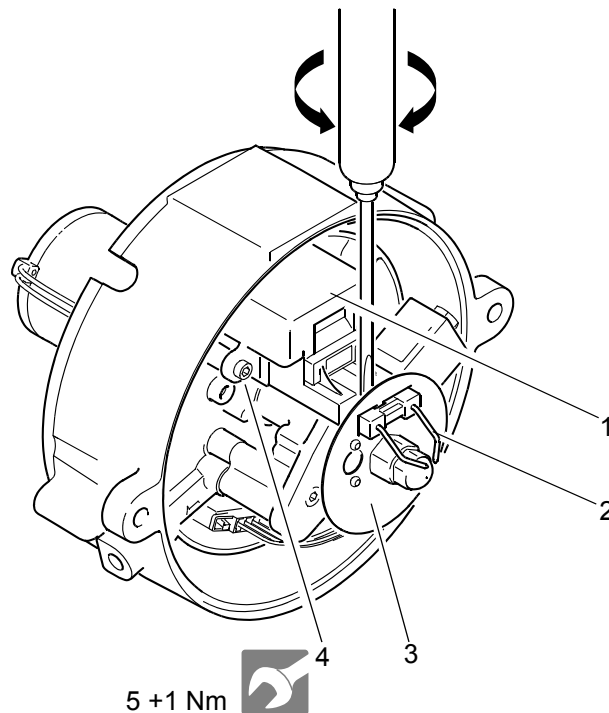
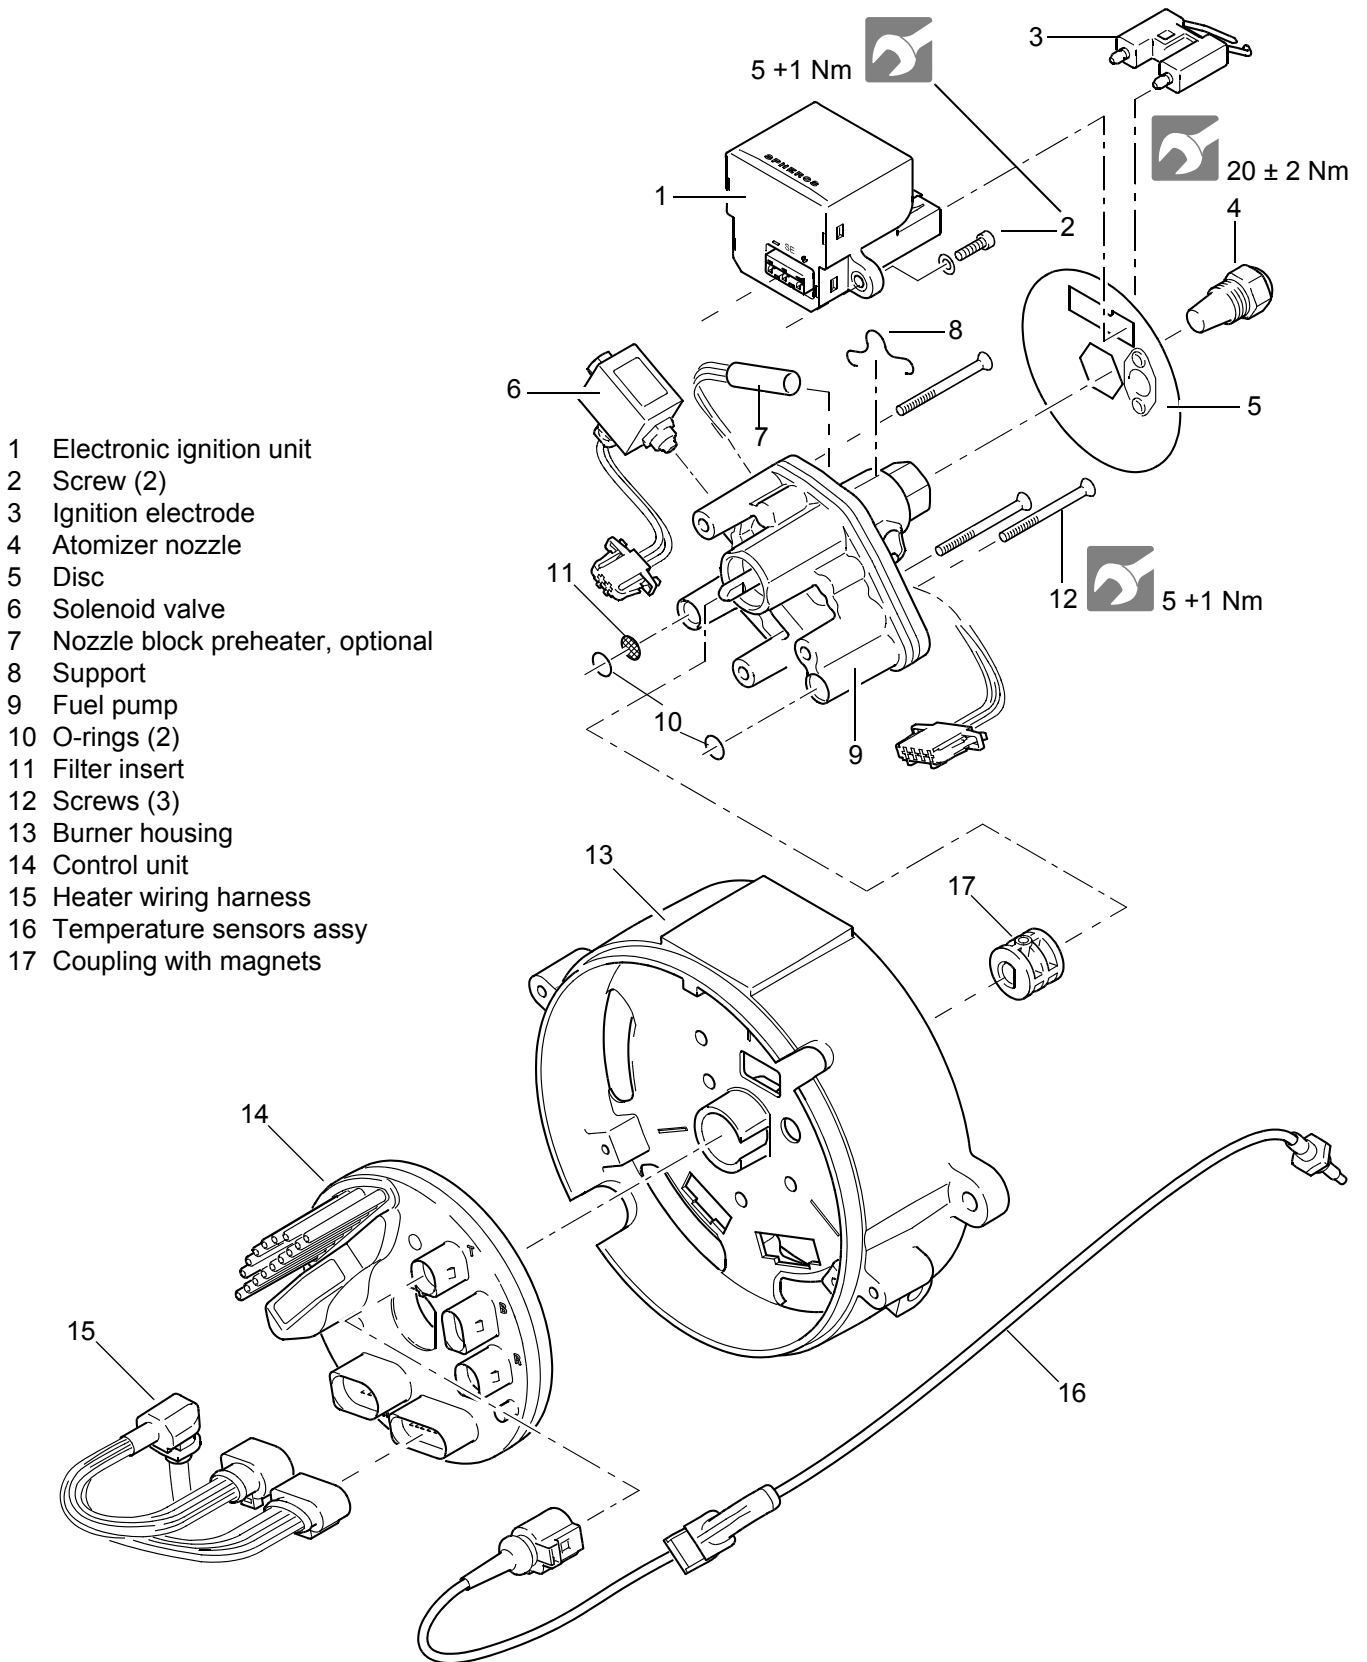
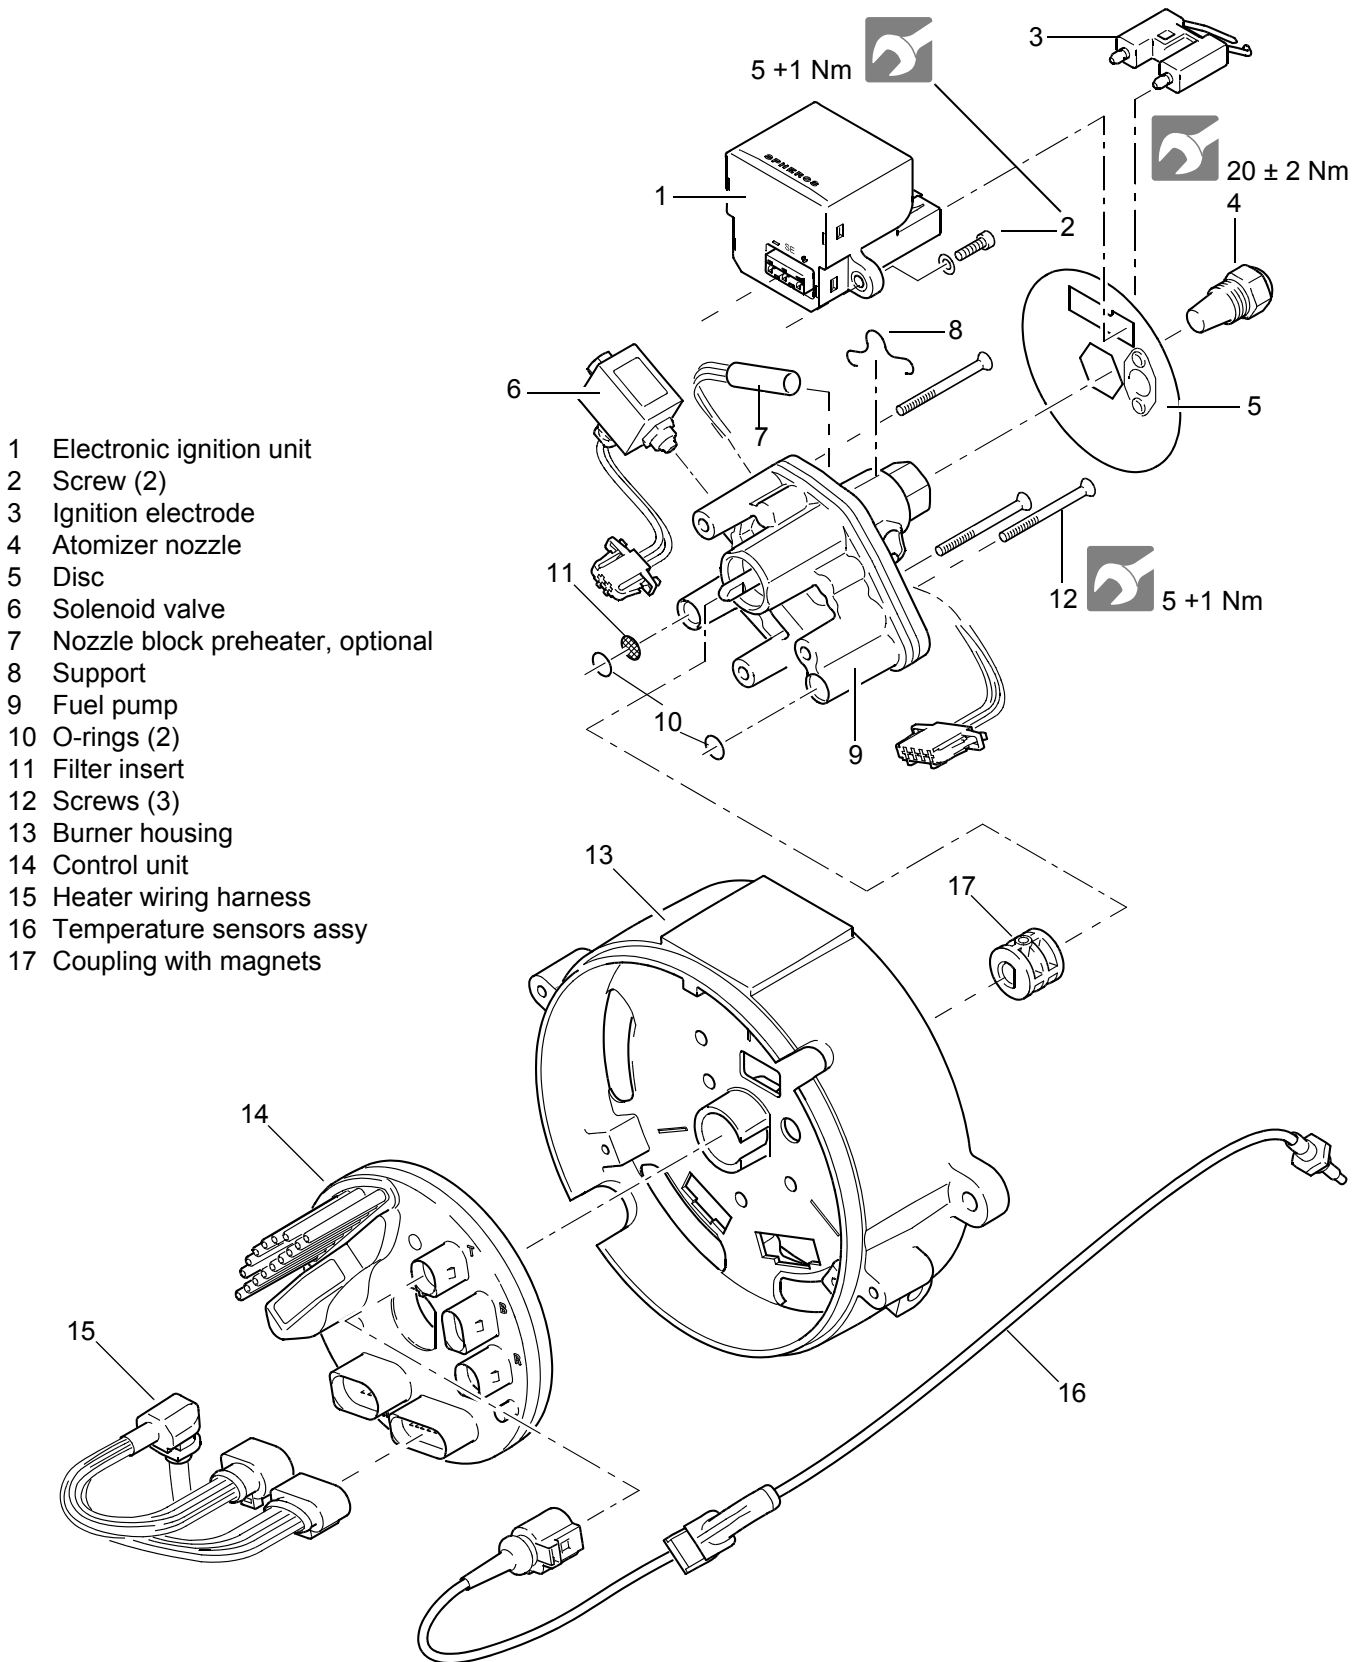
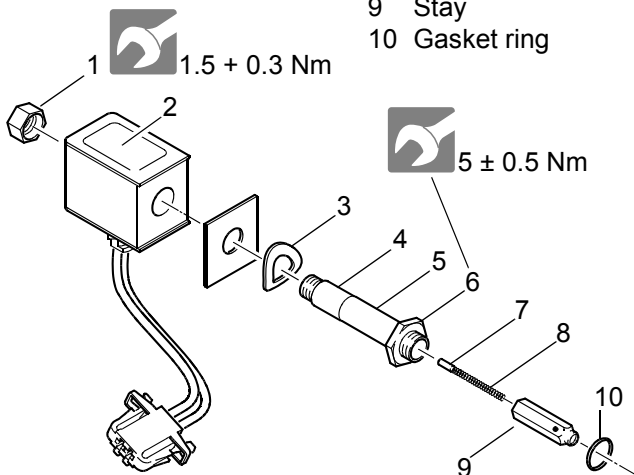

Fig. 804 Removal of the electronic ignition unit / ignition electrode
Fig. 805 Components removal and installation
Fig. 806 Components removal and installation
Fig. 807 Solenoid valve
2. Lift off ignition electrode (2, Fig. 804) from the electronic ignition unit by twisting a screwdriver sideways.
3. Remove disc (3).
4. Remove screws (4) with retaining washers.
5. Pull electronic ignition unit (1) off and remove it.
1. Bring electronic ignition unit (1, Fig. 804) into installation position, attach ready for connection and secure with screws (4).
2. Tighten screws (4).
3. Fit disc (5) onto the nozzle holder of the fuel pump (9, Fig. 805) and align with the flame detector in the control unit (14) and the electronic ignition unit.
4. Fit the ignition electrode (2, Fig. 804).
- 4 Screws (2)
2. Disconnect solenoid valve plug (6, Fig. 806) and, if applicable, the optional nozzle block preheater (7) from the control unit (14).
5. Disconnect the heater wiring harness (15) from the control unit (14).
6. Carefully pull control unit (14) from the burner housing (13) and remove it.
1. Align control unit (14, Fig. 806) with the burner housing (13).
2. Carefully slide control unit (14) into the burner housing (13) as far as it will go.
3. Connect the heater wiring harness (15) to the control unit (14).
5. Install electronic ignition unit (1) (see 8.6).
6. Connect solenoid valve plug (6) and, if applicable, the optional nozzle block preheater (7) to control unit (14).
2. Lift off ignition electrode (3, Fig. 806) from the electronic ignition unit by twisting a screwdriver sideways. (see Fig. 804)
3. Remove disc (5).
4. Disconnect the solenoid valve plug (6, Fig. 806) and the optional nozzle block preheater (7) from the control unit (14).
5. Remove and scrap screws (12).
6. Pull fuel pump (9) with the solenoid valve (6) off and remove it.
7. Remove and scrap O-rings (10) and filter insert (11).
8. If applicable, remove the nozzle block preheater (7). For this purpose, remove support (8) from the nozzle holder using suitable tools.
9. If necessary, remove the solenoid valve (6) from the fuel pump (9). (see 8.9)
1. If necessary, attach solenoid valve (6, Fig. 806) to the fuel pump (9). (see 8.9)
2. If applicable, install nozzle block preheater (7) and mount support (8) to the nozzle holder using suitable tools.
3. Attach new O-rings (10) and a new filter insert (11) to the fuel pump (9).
2. Lift off ignition electrode (1, Fig. 804) from the electronic ignition unit by twisting a screwdriver sideways. (see Fig. 804)
3. Remove disc (5, Fig. 806).